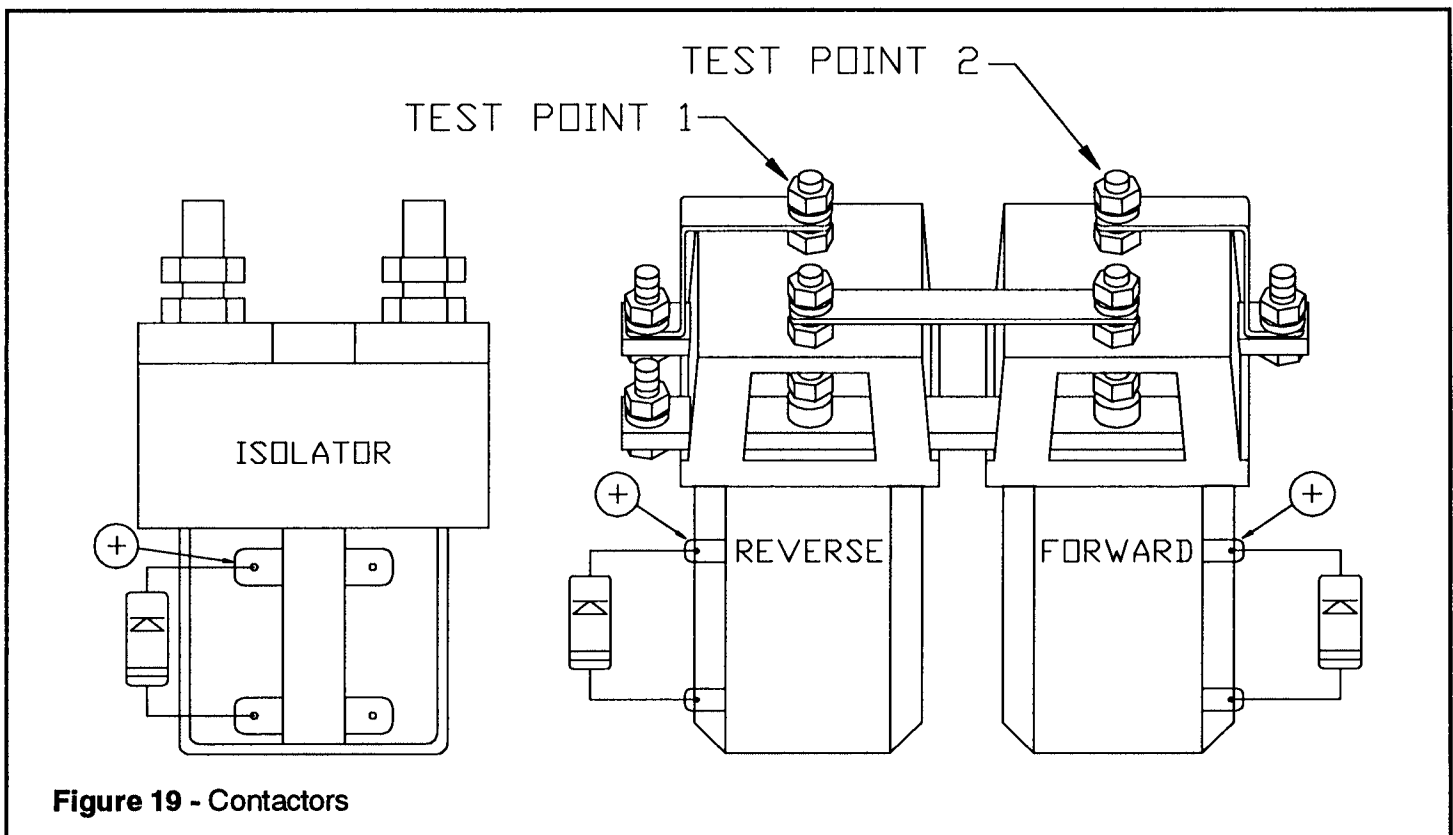

Figure 19 - Contactors
Refer to Figure 19 for correct diode polarities. Incorrect polarity will damage diodes.
If resistance across test points 1 and 2 (Figure 19) is not 0 ohms then the forward/reverse contactor is bad. STOP
- Using R x10, if resistance across test points 1 and 2 (Figure 19) is not 0 ohms then F&R contactor is bad. STOP